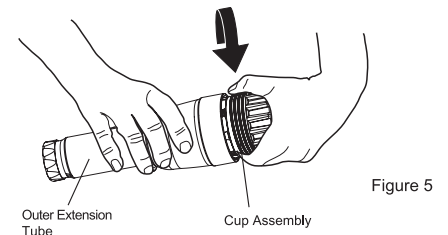

Figure 5
3. Unscrew the cup assembly, remove outer extension tube and set aside (see Figure 5).